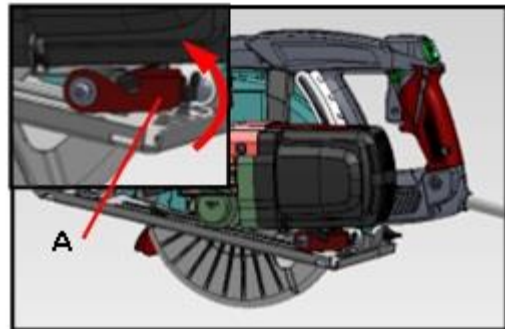

Fig.1
1. Loosen lower guard lever (A). **Fig. 1.**